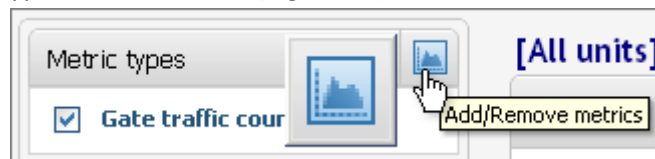

Figure 99: metrics type control.
3. Change metrics type to be calculated (Figure 99)